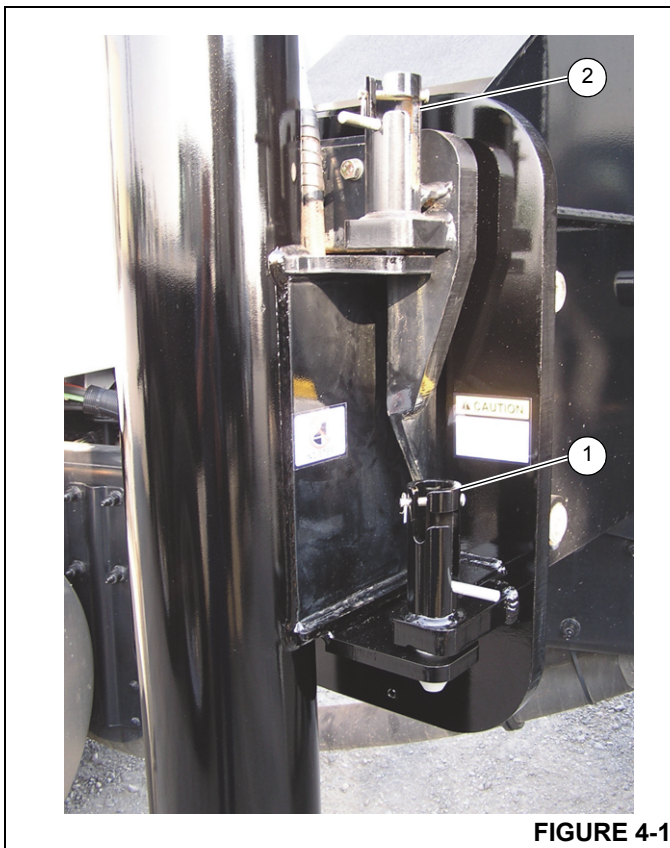

FIGURE 4-1
1. Disengage the mechanical travel lock (1, Figure 4-1) that secures each outrigger beam in the fully retracted position during travel.
- b. the midpoint position. Engage the manual midspan over-center locks (2, Figure 4-1) for the midpoint position.